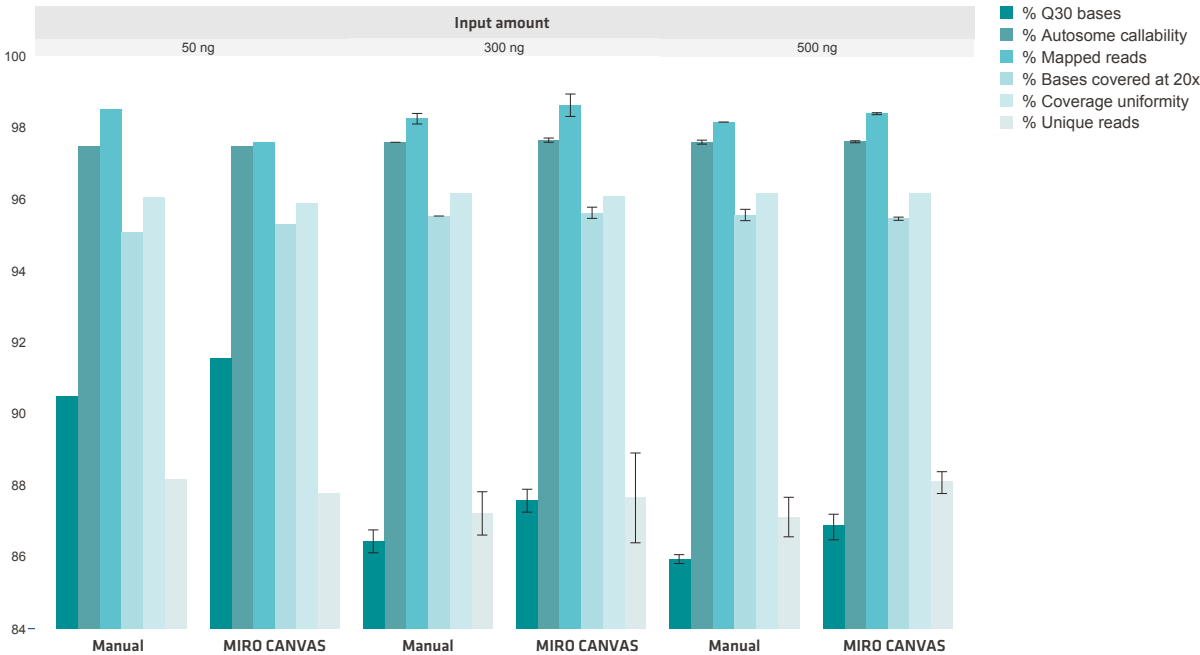

Figure 2: Sequencing metrics performance across a range of DNA inputs.
The MIRO Universal Library Prep (Twist) protocol has been tested using 50 ng of NA12878* gDNA. Hybridization capture was then performed manually to assess the quality of the library preparation protocol alone on the MIRO CANVAS. Replicates of the libraries prepared on the MIRO CANVAS and manually (n=4, 8 in total) were sequenced on an Illumina NextSeq 500 or 550 platform, 75 Paired-End. Key metrics, such as depth of coverage and fold-80 scores, were comparable between the methods. Additionally, both methods yielded a similar percentage of duplicated reads and reads on target (Figure 2).
Figure 2: Multiple metrics were used to evaluate the sequencing data generated using both manual and Twist Universal Library Prep protocols. Hybridization capture was performed manually. All samples were subsampled to 150x raw sequencing coverage (70 M reads, 5.3 GB of data per sample).
The resulting sequencing metrics are comparable between manually prepared libraries and those generated using the automated workflow on the MIRO CANVAS (Figure 2). For DNA input amounts >300 ng, MIRO CANVAS libraries match or exceed the sequencing metrics for manual libraries, including base call accuracy, passing genotype calls in autosomal chromosomes, reads that confidently map to the reference genome, the % of bases covered at 20x, uniformity of coverage and duplication rates. Quality control (QC) metrics used in applications aimed at variant detection were additionally examined after subsampling to 40x sequencing coverage (Table 3). MIRO CANVAS libraries presented equal or better F1 scores for both SNVs and INDELs, as well as % bases covered at 20x, across all input ranges of tested DNA.
Figure 2: Set-up of the ASSIST PLUS for assay sample and standard addition. Position A: LAL water in 10 ml SureFlo reservoir. Position B: 96 well assay plate. Position C: Tube rack with Lonza pyrogen-free tubes (empty, magenta), 250 µl of 20 EU/ml endotoxin standard (green) and 1 ml of sample (blue).
HOW TO: Pair the 0.5-300 µl D-ONE single channel pipetting module with the ASSIST PLUS pipetting robot. Place pyrogen-free test tubes containing 1 ml sample in the tube rack on deck Position C (blue tubes in **Figure 2**). Place three empty tubes in Positions A1-A3 within the rack. These are used to create the standard dilutions (magenta tubes in **Figure 2**). Place a tube holding 250 µl of 20 EU/ml endotoxin standard in A4 in the rack (green tube in **Figure 2**). Place a 10 ml SureFlo reservoir holding LAL water on deck Position A, and a 96 well flat bottom plate on deck Position B.